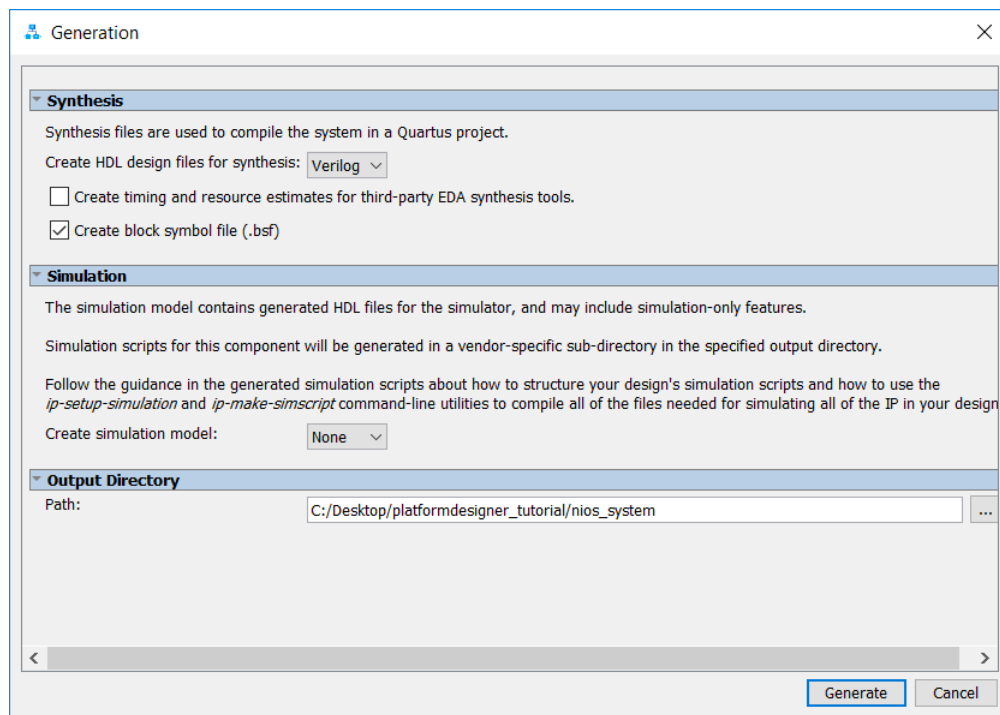

Figure 19. Generation of the system.
- Having specified all components needed to implement the desired system, it can now be generated. Save the specified system; we used the name *nios_system*. Then, select **Generate > Generate HDL**, which leads to the window in Figure 19. Select **None** for the option **Simulation > Create simulation model**, because in this tutorial we will not deal with the simulation of hardware. Click **Generate** on the bottom of the window. When successfully completed, the generation process produces the message “Generate Completed”.